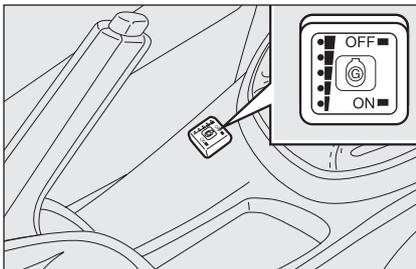

fig. 1
The petrol/LPG switch **fig. 1**, located on the central tunnel (next to the gear lever) allows the driver to select petrol or LPG operation as they see fit.
*Remember that, once LPG refuelling is complete, it is necessary to switch again by pressing the button **fig. 1** to run the car on gas.*